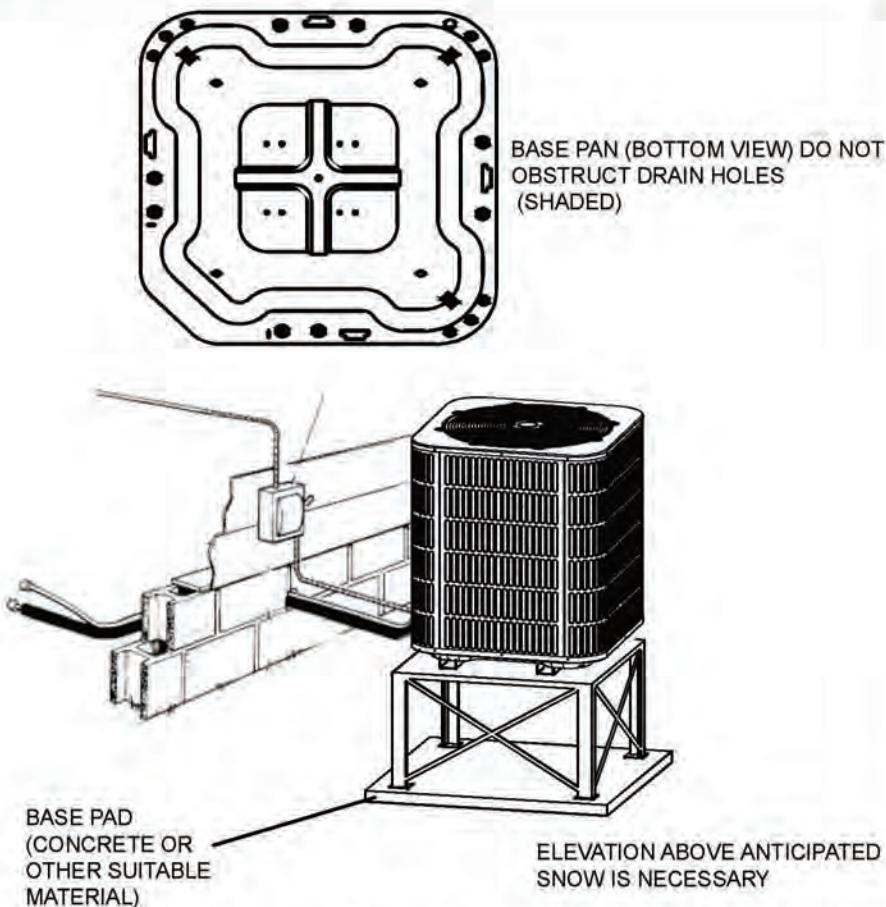

Fig.3 RECOMMENDED ELEVATED INSTALLATION
2. If elevating a unit on a flat roof, use 4"× 4"(or equivalent) stringers positioned to distribute unit weight evenly and prevent noise and vibration (See Fig.3).
NOTE: Do not block drain openings shown in Fig.3.